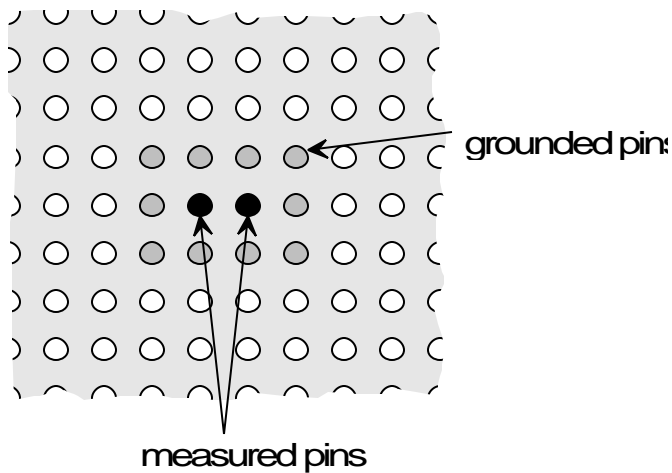

Figure 5 - Bandwidth measurement
| Figure 5 - Bandwidth measurement..... | 7 |
1. The bandwidth for the 0.8MM BGA socket was determined from a loop-thru measurement on two adjacent pins. The nearest row of pins was grounded (see figure 5). The 1-dB bandwidth was 3.45 GHz, please see page 12 of the Appendix.